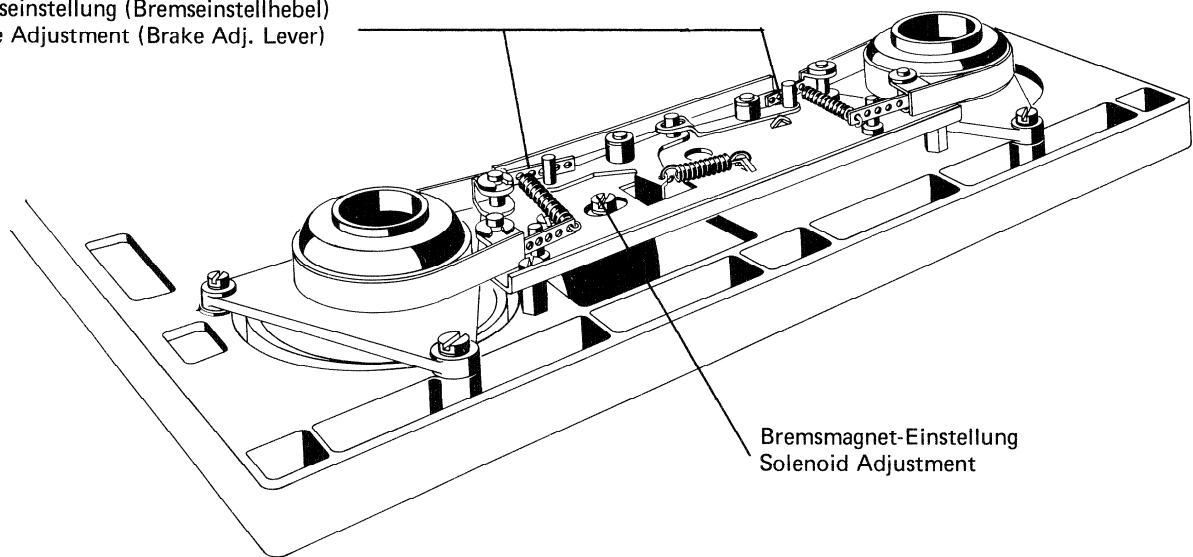

Fig. 3.2.-2
- When the brakes are correctly adjusted the values obtained for the braking force are as shown in fig. 3.2.—1.
### 3.2.2. Einstellen der Bremsen (Fig. 3.2.-2)